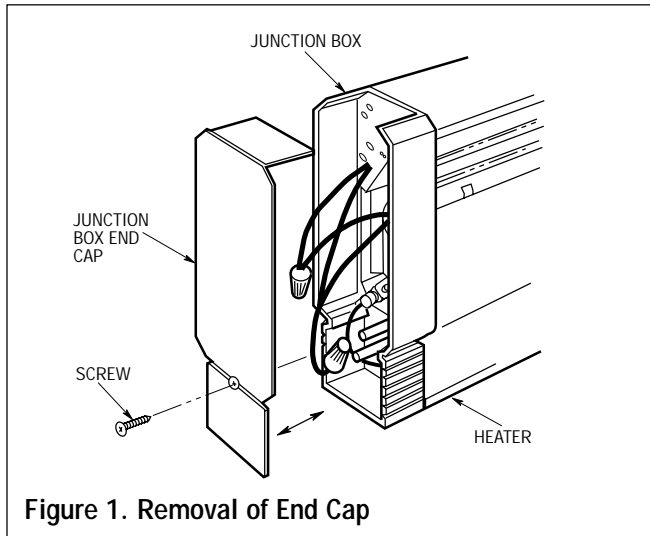

Figure 1. Removal of End Cap
2. Remove selected junction box end cap (Figure 1) and discard; save screw.